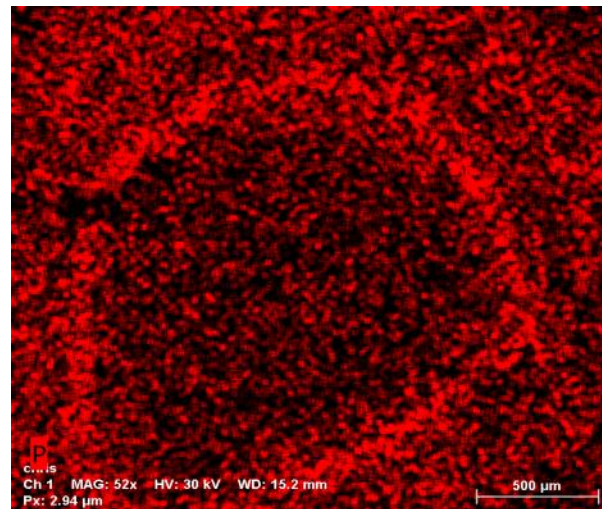

Figure 5: SEM-EDX analysis of the ICS granules
- **Figure 5:** The ICS granules have a solid structure with a sand core surrounded with iron. The phosphorous is accumulated at the sand core of the granule.